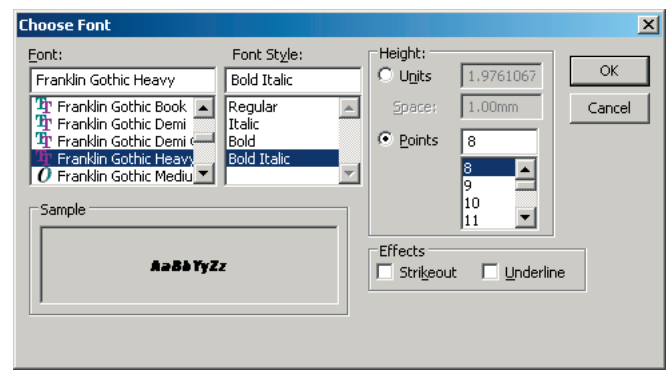

Fig. 24
Step 3. In the Choose Font dialog box, **Fig. 24** select: